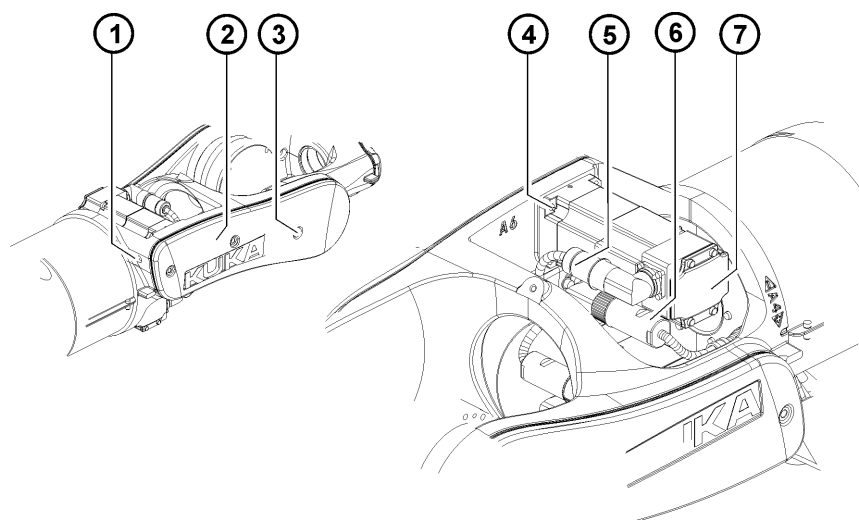

Fig. 11-13: Removing motor A6
1. Slacken Allen screw (>>> Fig. 11-13) and nut and unscrew them by a few turns.